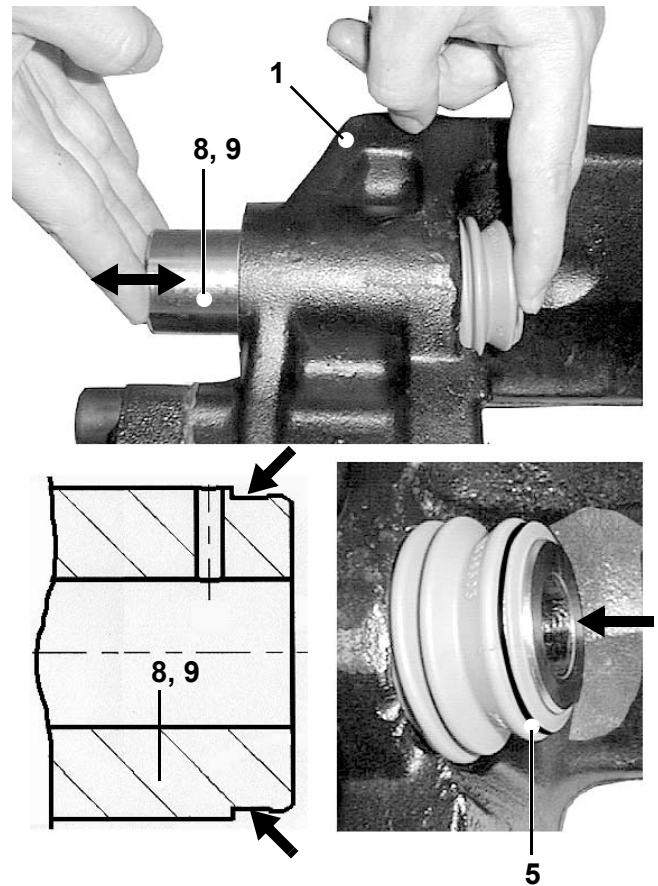

Fig. 46
- Grease the sliding surfaces of the guide pins (8, 9) and the inner lip of the gaiters (5).
- Insert the **new** guide pins from the cylinder side into the caliper (1).
- Mantle guide pins with gaiters (5) and insert them into the guide pin seat (8, 9).
- Move guide pins backwards and forwards as shown in fig. 46 several times.
Do not lose the metal-ring on gaiter (5) and check for proper seat (right side in fig. 46)!